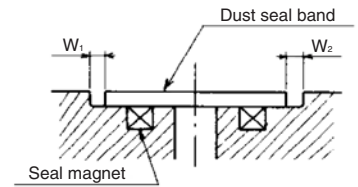

Fig. 5
- Masking tape (black) of dust seal band for replacement should be removed and applied the grease wholly as Fig. 4^(Note 1) after supplementary process of Fig. 5. (Length of dust seal band is defined as regulated. But check the length again before mounting for shipping.)
Set the dust seal band on the Cylinder tube with equivalent clearance W_1 and W_2 . (Fig. 5) Another work is same way as above 4.